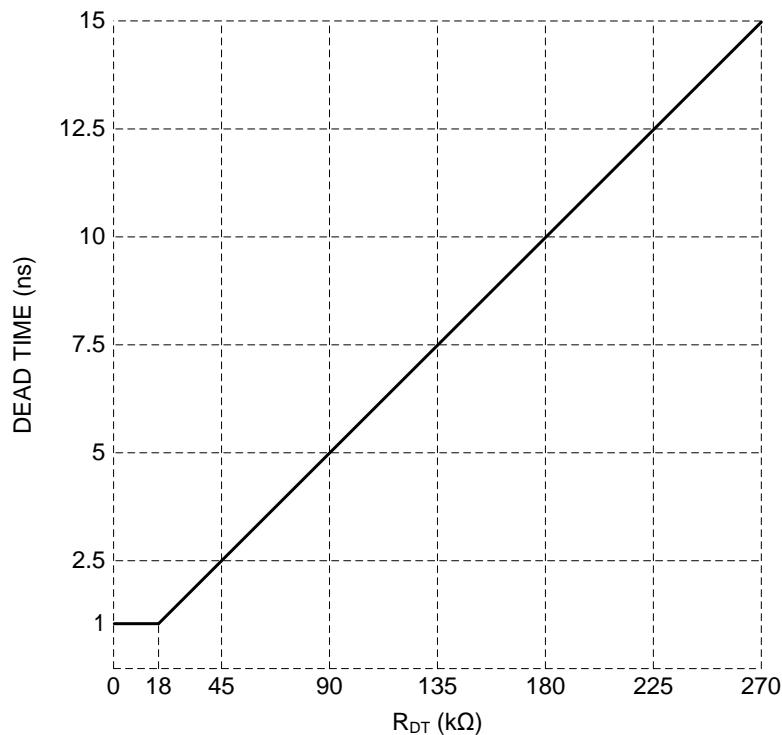

Figure 22. Dead Time vs R_{DT}
Connecting a resistor, R_{DT} , between DTH and/or DTL and GND sets an additional delay from 1ns to 15ns to the dead time. Choose a R_{DT} value from Equation (1) or Figure 22, as follows: